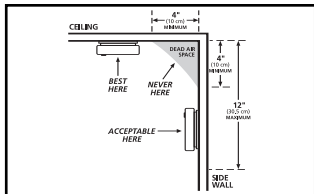

FIGURE 1
- When mounting an alarm on the ceiling, locate it at a minimum of 4" (10 cm) from the side wall (see figure 1).
- When mounting the alarm on the wall, use an inside wall with the top edge of the alarm at a minimum of 4" (10 cm) and a maximum of 12" (30.5 cm) below the ceiling (see figure 1).
Modern mobile homes have been designed and built to be energy efficient. Install smoke alarms as recommended above (refer to RECOMMENDED LOCATIONS and FIGURES 1 and 2).
In mobile homes that are not well insulated compared to present standards, extreme heat or cold can be transferred from the outside to the inside through poorly insulated walls and roof. This may create a thermal barrier which can prevent the smoke from reaching an alarm mounted on the ceiling. In such units, install the smoke alarm on an inside wall with the top edge of the alarm at a minimum of 4" (10 cm) and a maximum of 12" (30.5 cm) below the ceiling (see figure 1).